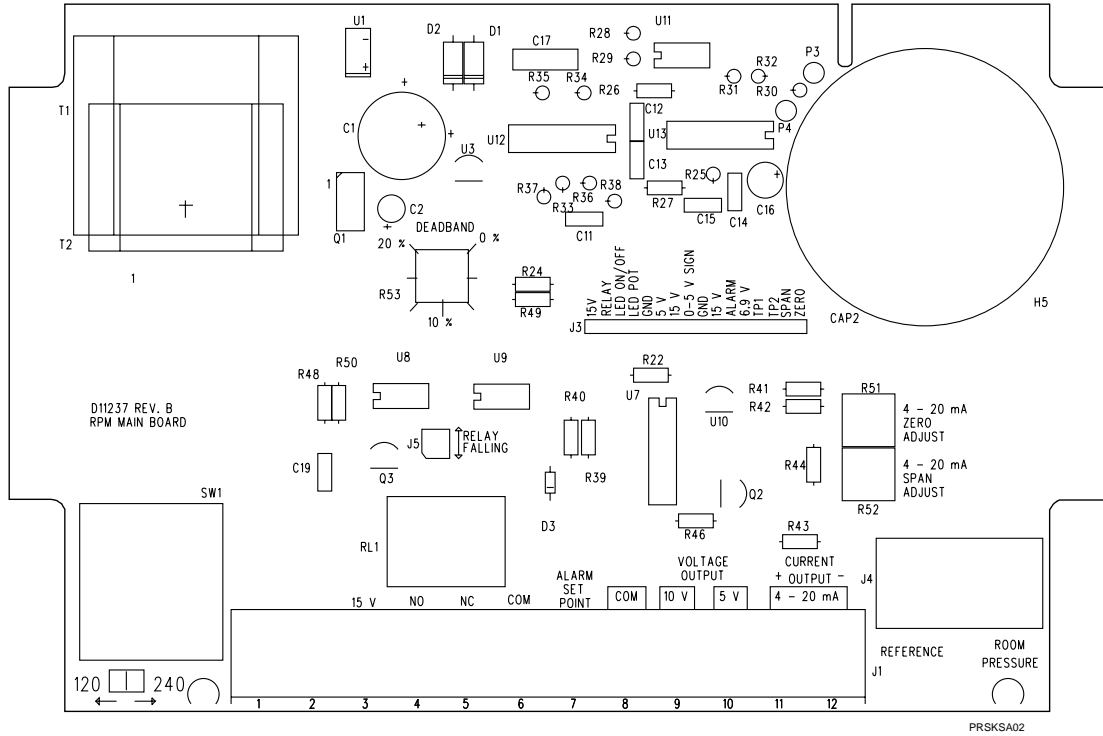

Fig.3 Main board
- Locate the "**4-20 mA ZERO ADJUST**" **R51** and the "**4 - 20 mA SPAN ADJUST**" **R52** potentiometers on the main board, (see Fig 3).